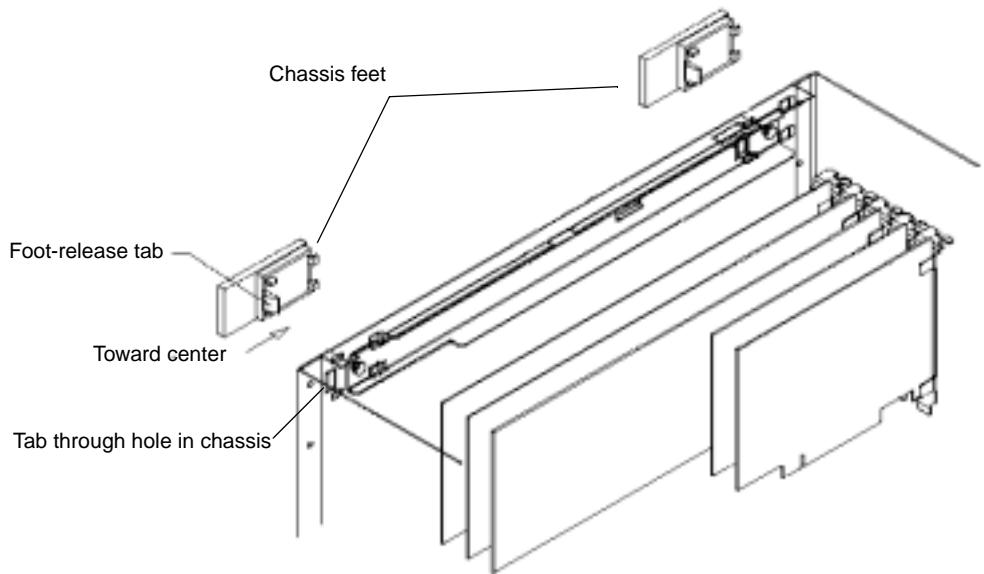

Figure 4-14 Removing the Chassis Feet
2. Remove the two chassis feet from the top of the system chassis by pushing the foot-release tab inside the chassis in the direction shown in Figure 4-14.